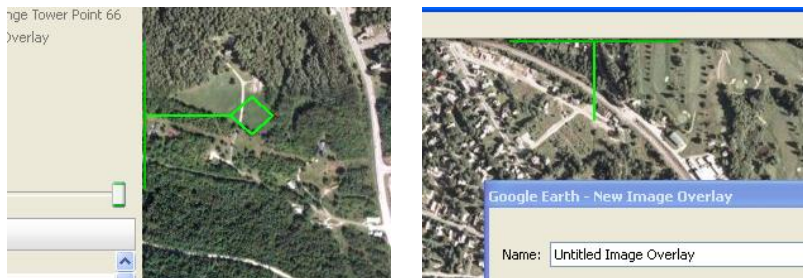

Figure 39: Image Overlay Alignment
5. Resize the Overlay Outline to cover the entire view. Move the cursor over the middle of the edge of the **green image overlay outline**. When the hand changes from open palm to a pointing finger, click and drag the outline edge until it lies on the edge of the viewable picture (Figure 39). *Be sure not to click on and move the map itself.* The map view must remain constant through the entire process. If